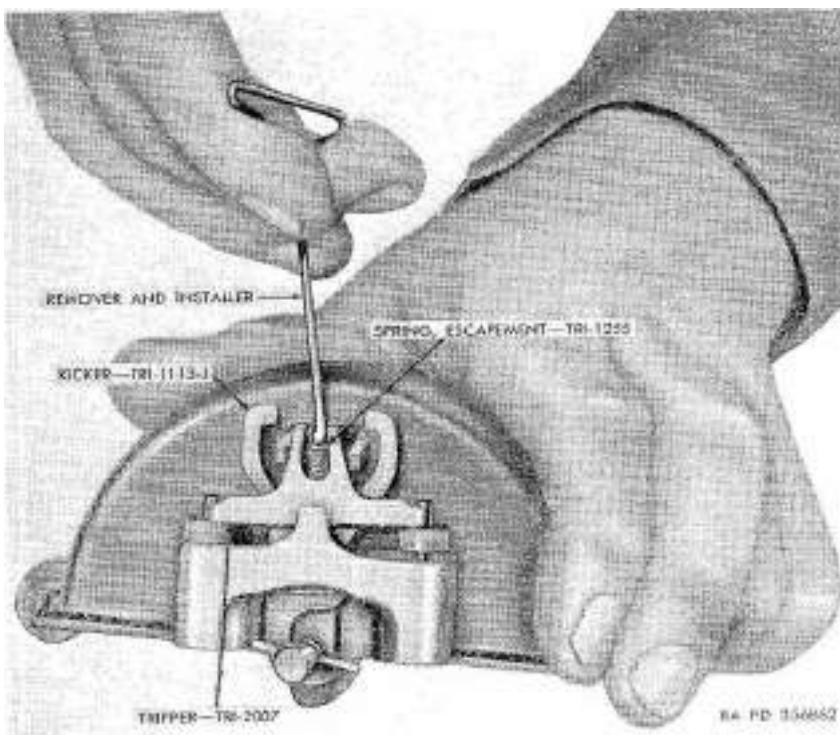
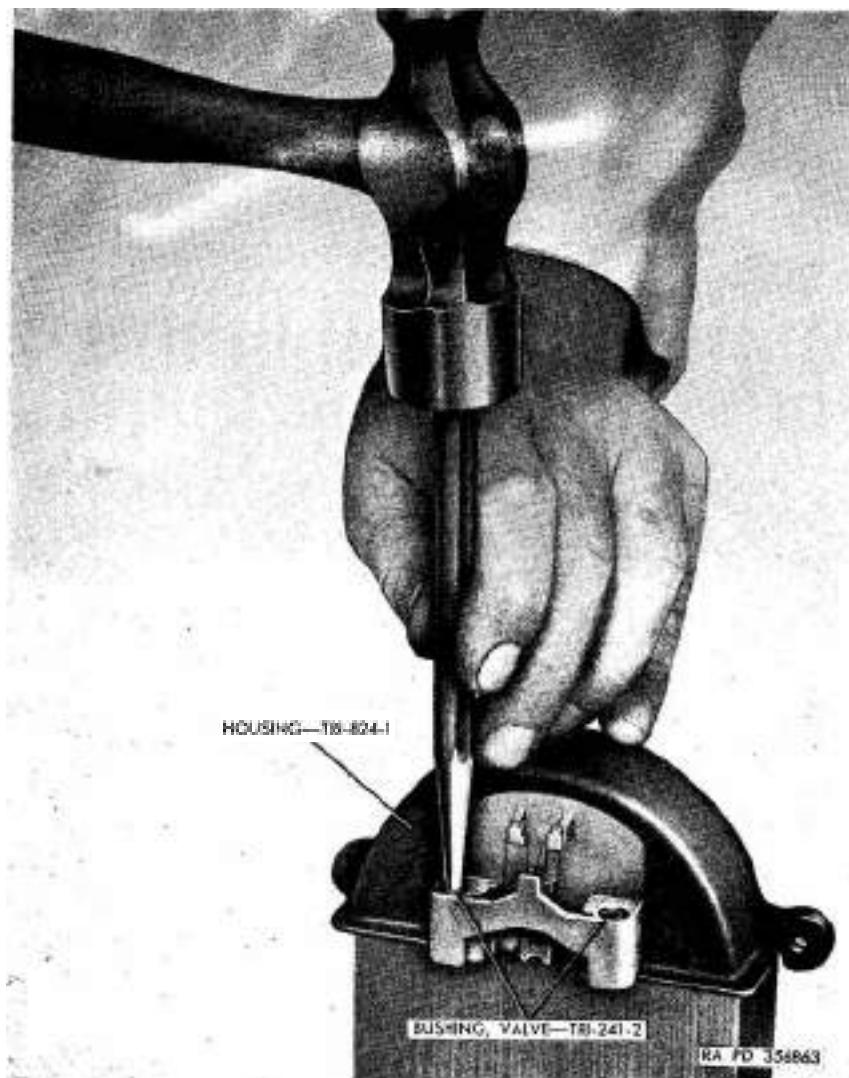

Figure 189. Removing and installing escapement spring with remover/installer from kit 41-K-280.
Figure 190. Removing valve bushings.
- (1) Remove two plate and bushing flat-head screws (P). This will release plate and bushing (M) from windshield wiper motor assembly. Remove plate and bushing (M), felt washers (Q), and spacing washer (R). Remove two studs (N) from plate and bushing (M).
- (2) Remove handle set screw (BB) from handle (CC). Remove handle from shaft.
- (3) Remove two valve cover ~~fillister-head~~ lock washer screws (DD). This will release valve cover (EE) from housing (GG).
- (4) Remove cover flat-head screws (C), cover long screws (B), and cover short screws (D). Move top end of kicker (L) from lug on cover assembly (A). Lift cover assembly (A) and gaskets (T and HH) from housing. Discard gaskets. Remove two shut-off valve cover screws (F). This will release shut-off valve cover (E), shut-off valve plate spring (G), shut-off valve retainer plate (H), retainer plate paper pad (J), and shut-off valve (K). Remove control knob (NN) from shut-off valve.
- (5) Disengage escapement spring (X) from tripper (Y) with remover and installer (fig. 189) from kit 14-K-280.
- (6) Remove tripper (Y), valves (W and Z), and felt washers (V and AA). Discard valves and felt washers.
- (7) Remove paddle plate assembly (KK) and paddle shaft (FF). Drive rivet (LL) from paddle plates. This will disengage paddle plate assembly from paddle shaft. Remove metal washers (S and MM). Discard paddle.
- (8) Remove kicker (L) and escapement spring (X). Remove escapement spring from kicker. Discard spring.
- (9) Remove valve bushings (U and JJ) from housing (GG) with a punch and hammer (fig. 190). Discard bushings.
- (1) Place new felt washers (V and AA) on valves (W and Z). Insert valves in housing from under side, notched end down, and notches toward center of housing.
- (2) Position tripper (Y) on housing and engage tripper with notches in valves (W and Z).
- (3) Hook remover and installer from kit 41—K-280 over lower end of escapement spring (X) and attach spring to tripper (fig. 189).